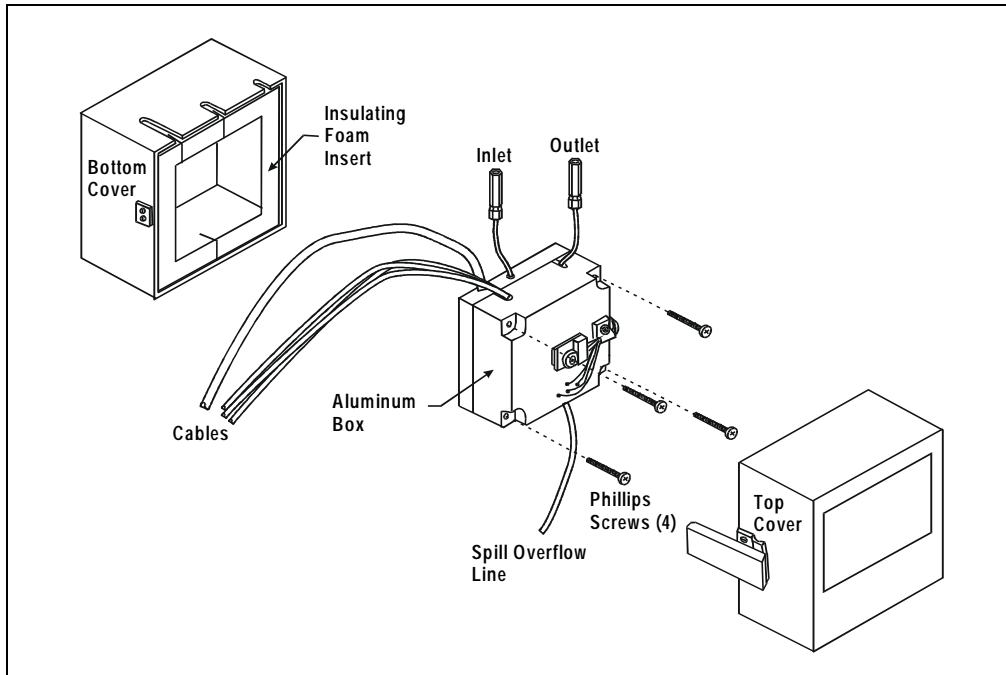

Figure 4-1. DS3 Exploded View
3. Disconnect the DS3 inlet and outlet lines. Do not misplace the ferrule fittings at the end of the tubing (see Figure 4-1).
5. Open both latches on the DS3 and carefully lift off the top half of the cover, along with its insulating foam insert, exposing an aluminum box (see Figure 4-1).